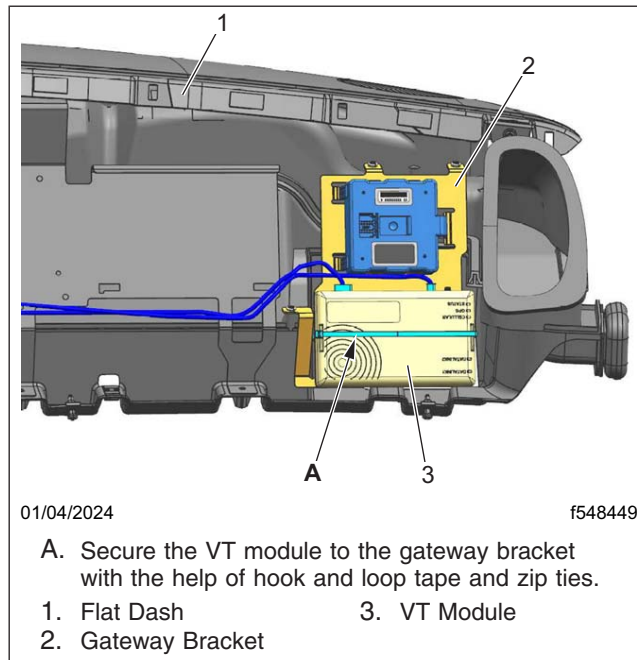
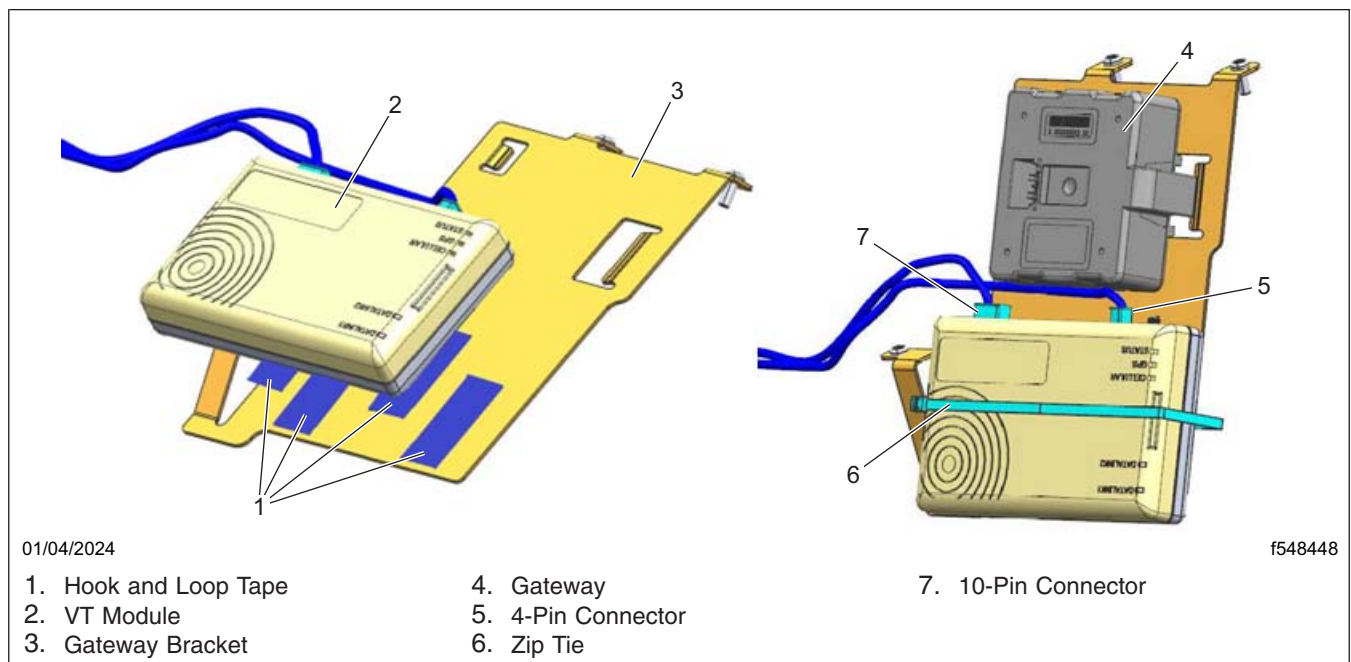

Fig. 2, VT Module Installation
Fig. 3, VT Module Installation on the Gateway Bracket
- Use the hook and loop tape and a zip tie to install the VT module on the gateway bracket location, as shown in Fig. 2 and Fig. 3.
- Locate the 10-pin and 4-pin electrical connectors, and attach them to the VT module, as shown in Fig. 3.